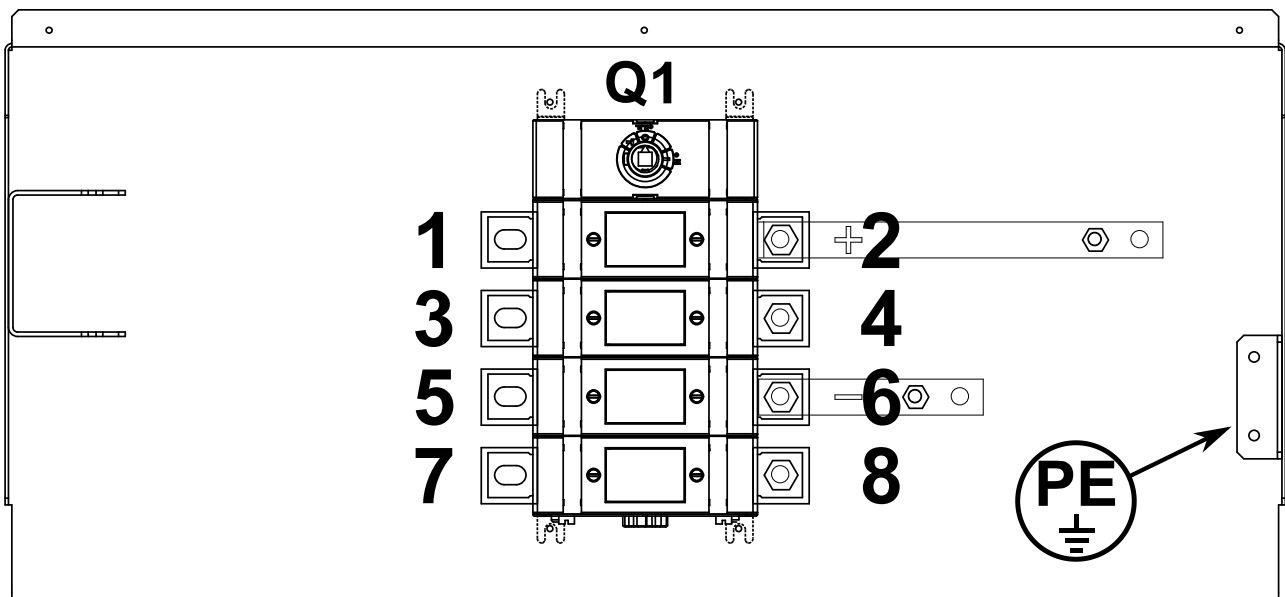

Fig. 11
- Connect wires (**connection cables not supplied**) from the battery cabinet to the UPS terminals (see Fig. 11).
- Check grounding connection (PE).
- Verify the battery voltages are within the range +235 ~ +270Vdc probing the points listed in the following table on Q1 switch with a multimeter, according to the Fig. 11 image.
- Between bars (-) and (+) Fig. 11: voltage is within the range of 235 - 280Vdc.